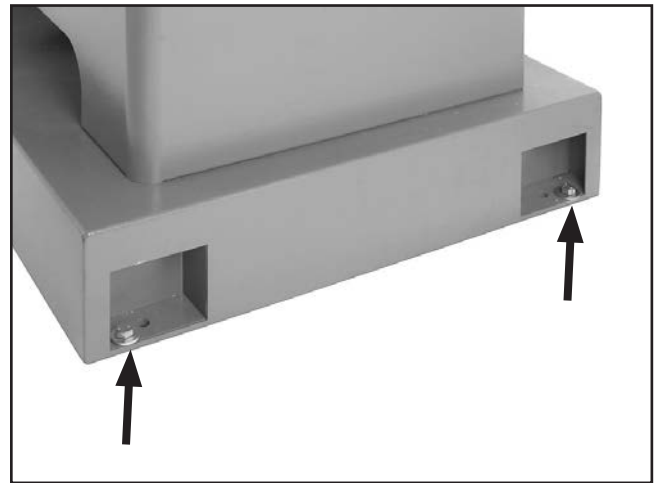

Figure 6. Example of where machine is bolted to the pallet (only one side shown).
1. Unbolt the base of the dovetail machine from the shipping pallet (see **Figure 6**), so it can be removed for placement.